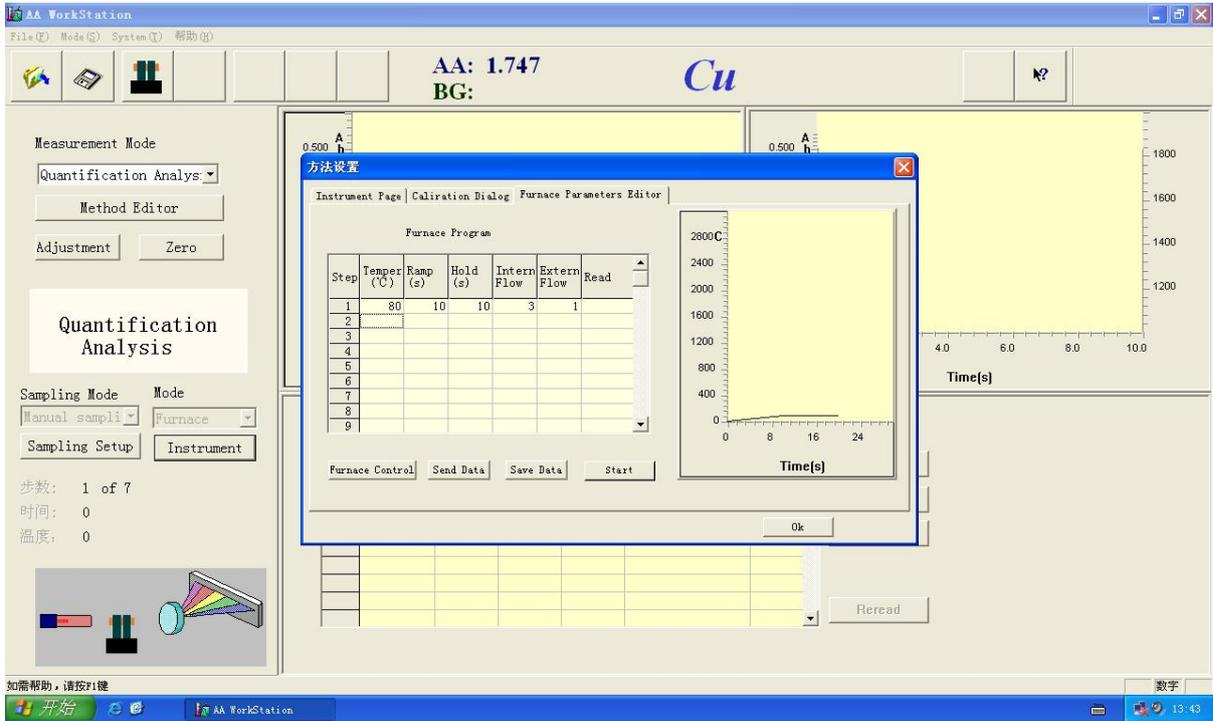

Figure 5-19
8. Input the program,such as input the No.1 program,see Figure 5-19